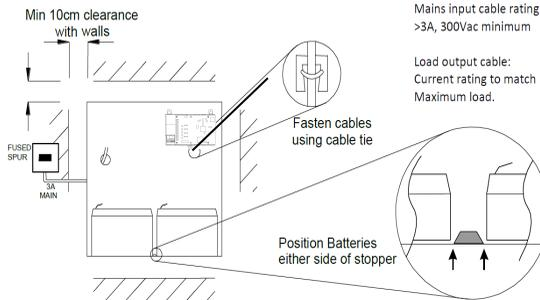

Fig. 1.0 Mounting of Power Supply
- 1) Mount securely allowing minimum clearance - see Fig. 1.0.